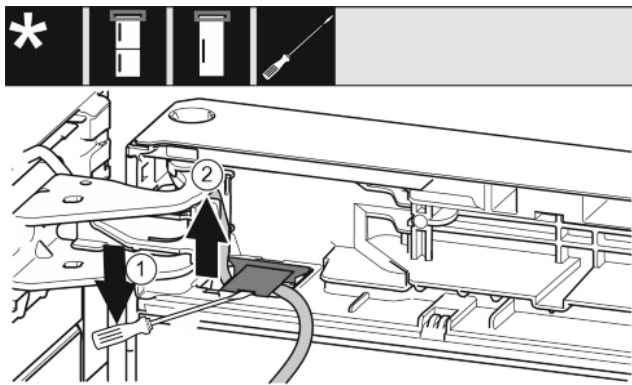

Fig. 17
- Lift up the cover with a screwdriver and pull it out. Fig. 17 (1)
- Pull out the cable. Fig. 17 (2)